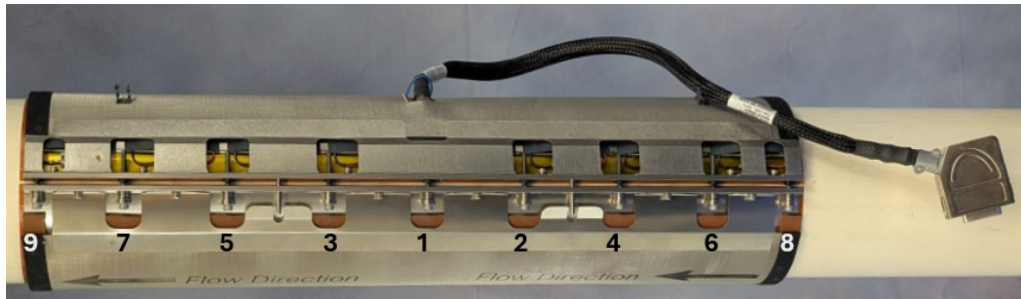

Figure 2-5: Sensor Band Screw Tightening Sequence
The BAND screws use either a 7/64" (for #6 screw size) or 5/32" (for #10 screw size) hexagonal wrench (Allen key wrench). Refer to *Table 2-2* for size information. Start with the center most screw and tighten screws 3 - 4 turns at a time. **Important:** Alternate the sequence in which screws are tightened. Refer to *Figure 2-5* for the screw tightening sequence.
the gap gauge tool can still be removed. *Figure 2-8* illustrates use of the BAND gap gauge tool. Alternate from screw to screw using the screw tightening sequence shown in *Figure 2-5*.
1. Tighten screws #1 - 7 an additional one-half turn in the numbered sequence given in *Figure 2-5*. Do not tighten screw #8 & 9 (screws on either end of the BAND).
1. Starting at screw #1 in *Figure 2-5*, tighten each screw an additional one-half turn in the given numbered sequence.